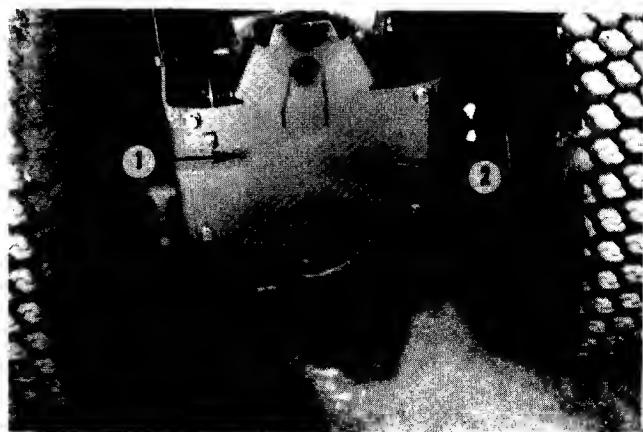

FIG. 4.33-REAR PTO COVER
1. Bracket Bolts (4)
8. Remove four bolts securing plate or PTO belt cover, if equipped with PTO to tractor frame, Fig. 4.33.
7. Install rear plate or belt cover to rear of frame. If belt cover be sure belt guide in cover is on outside of belts. Fig. 4.33.